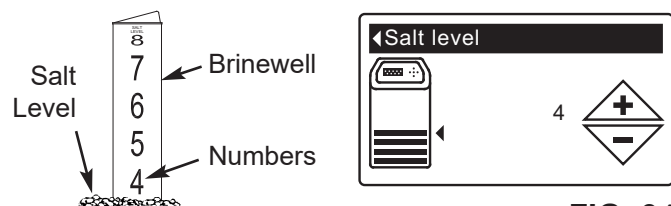

FIG. 34
5. Press the SELECT (O) button to display the Salt level screen (See Figure 34). This screen will not automatically exit for 15 minutes.
6. After adding and leveling salt, observe the numbered scale on the brinewell (See Figure 34). Press UP (▲) or DOWN (▼) to change the salt level to match the lowest number visible above the salt.